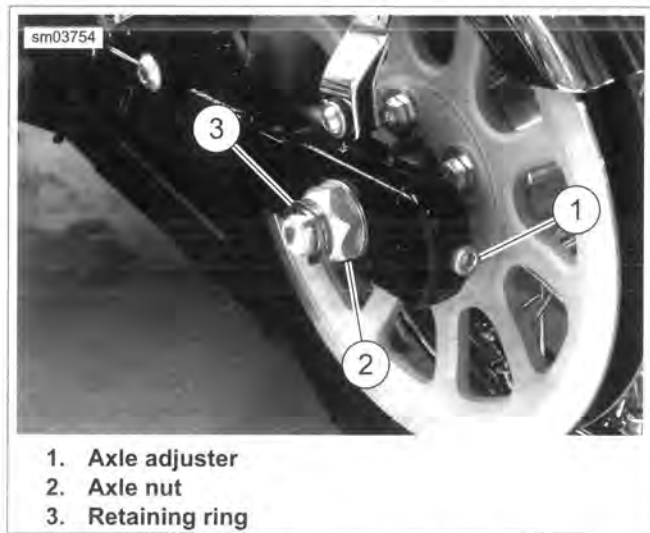

Figure 1-27. Axle Adjusters (Left Side Shown)
1. See Figure 1-27. Remove retaining ring (3) and loosen axle nut (2).
2. Adjust belt tension by turning the axle adjusters (1) an equal number of turns to keep the wheel aligned until the specification in Table 1-13 is achieved.
3. Install retaining ring (3).
4. Tighten axle nut (2) to 95-105 ft-lbs (128.8-142.4 Nm).